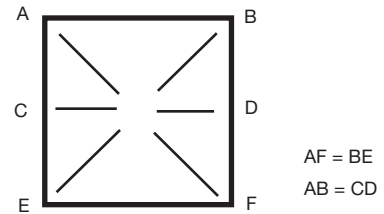

Figure 3
6) Individual damper sections, as well as entire multiple section assemblies must be completely square and free from racking, twisting, or bending. Measure diagonally from upper corners to opposite lower corners of each section (see **Figures 3 & 4**)